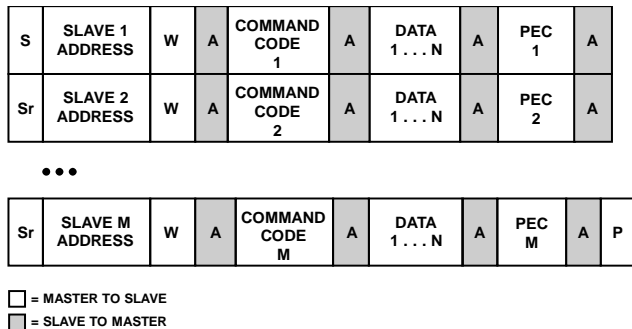

Figure 28. Group Command Protocol with PEC
In addition to the communication protocols described in the Data Transfer Commands section, the PMBus slave supports a special group command in which commands are sent to multiple slaves in a single serial transmission. The commands to each slave can be different from one another, with each set of slave address and command separated by a repeated start (Sr) bit (see Figure 28). At the end of a transmission to all slaves, a single stop (P) bit is sent to initiate concurrent execution of the received commands by all slaves.